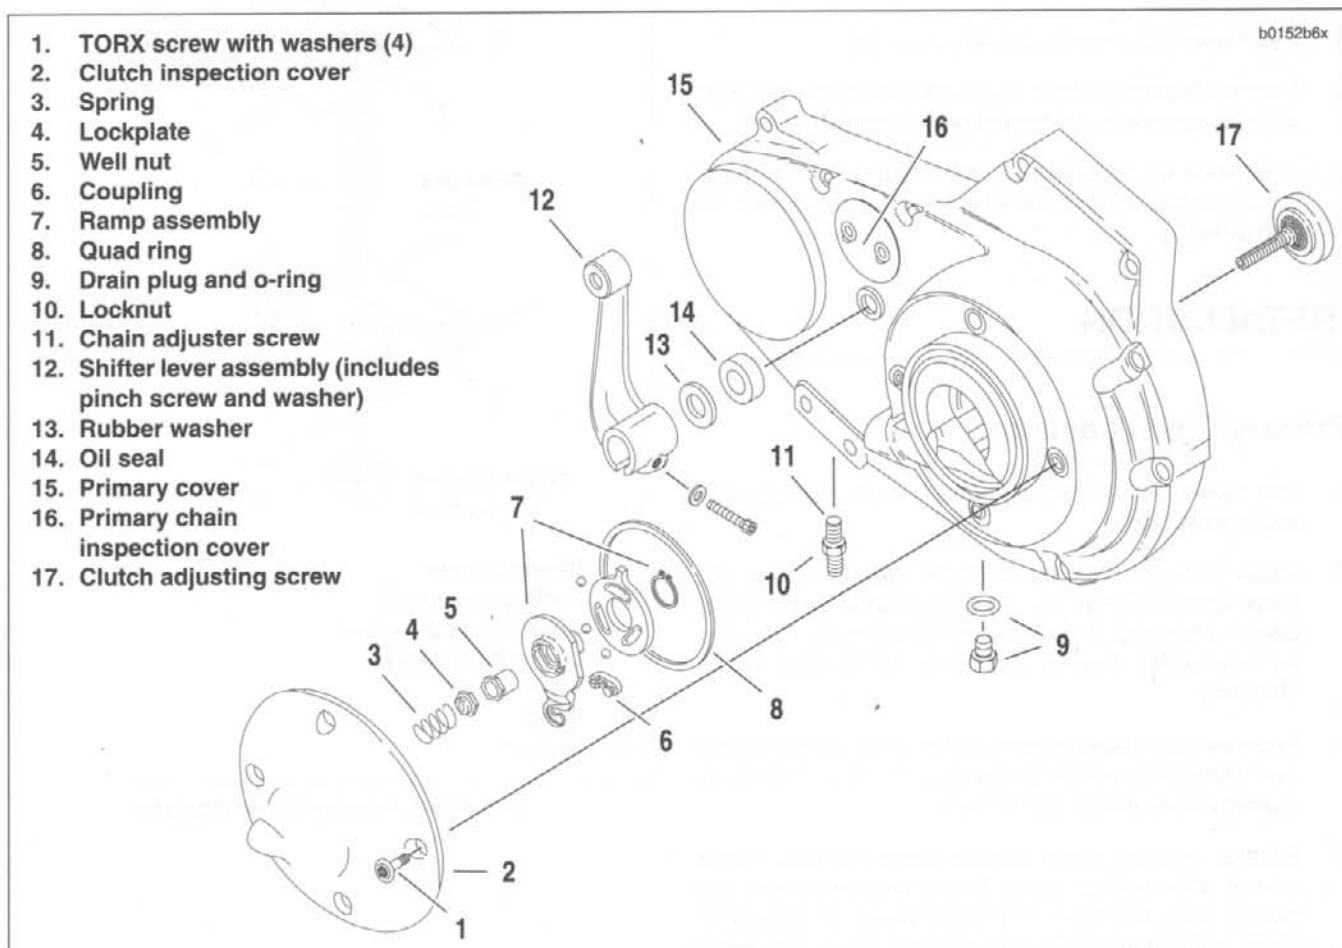
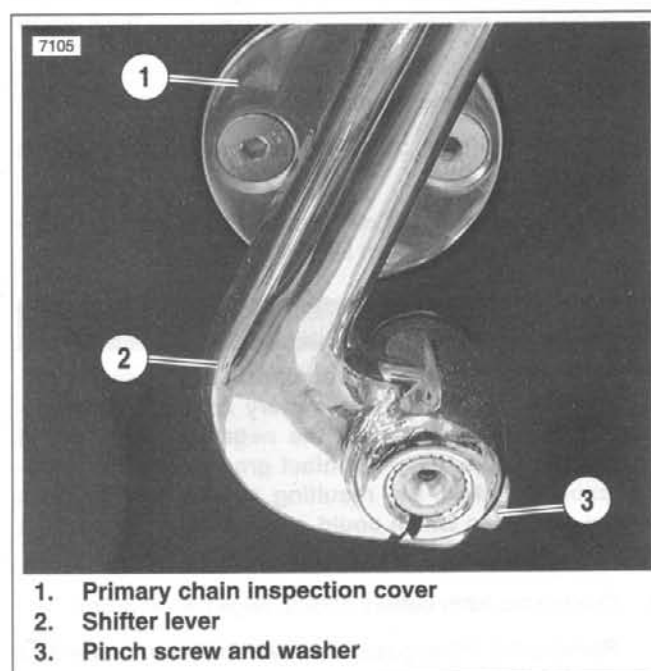

Figure 6-1. Primary Cover
Figure 6-5. Shifter Lever
3. See Figure 6-1. Place a drain pan under the engine. Remove drain plug (9) and drain lubricant from primary drive.
4. See Figure 6-1. Install **new** shifter lever oil seal (14).
5. Fit coupling (6) over cable end with rounded side inboard, the ramp connector button outboard. With retaining ring side of ramp assembly facing inward, place hook of ramp (7) around coupling button and rotate assembly counterclockwise until tang on inner ramp fits in slot of primary cover.
6. Thread well nut (5) on adjusting screw (17) until slot of screw is accessible with a screwdriver. Fit well nut hex into recess of outer ramp and turn adjusting screw counterclockwise.
10. Install rubber washer (13) and shifter lever assembly (12).
11. See Figure 6-5. Shifter lever (2) must bisect primary chain inspection cover (1). Tighten pinch screw (3) to 100-120 in-lbs (11.3-13.6 Nm).